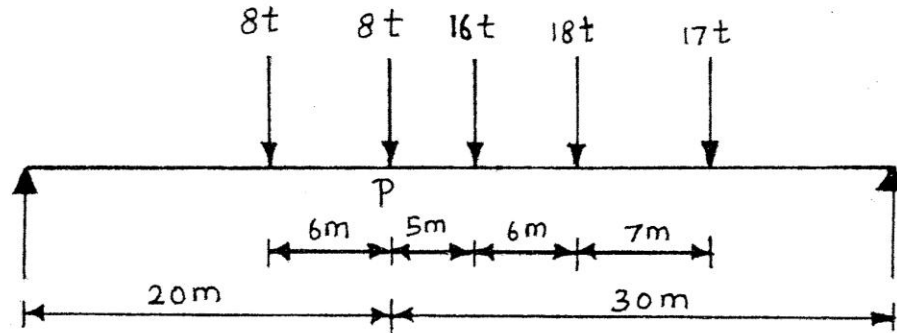

Figure-2
4. For the span shown in figure-2, obtain the bending moment at a section 'P', 20 m from left support due to given loads in the position indicated. Determine the maximum bending moment at a section 5 m from the left support. Also, find the magnitude of the absolute maximum bending moment anywhere in the girder.